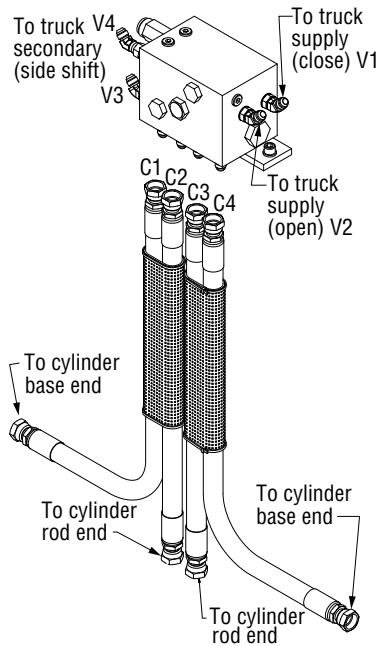

Figure 4-5, Hydraulic Connection
1. Install the lines from the truck's hydraulics to the attachment's hydraulics. (Figure 4-5) See the parts documentation for model-specific hydraulic schematics.